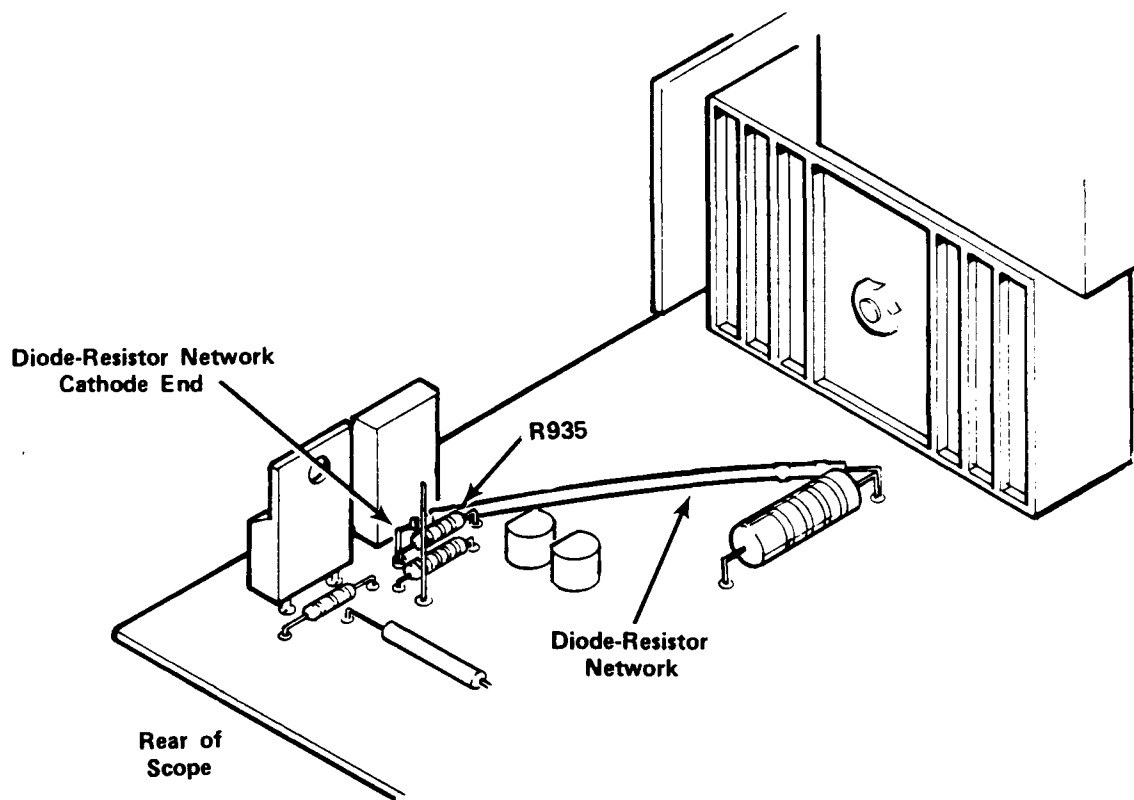

Fig. 1. Location of new diode-resistor network.
Perform step 10 only if the diode-resistor network shown in Fig. 1 is not present.
- () 10. Install the diode-resistor network, included in this kit, as shown in Fig. 1. Connect the cathode lead to the lead of R935 that is closest to the rear of the instrument. Connect the resistor lead of the new network to the lead of R949 that is nearest the front of the instrument. Ensure both leads of the new network make a solid mechanical connection by installing the leads into the circuit board holes with the resistor leads or by wrapping the network leads around the resistor leads before soldering.